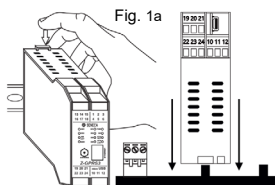

Fig. 1a
- 2) Insert the rear IDC10 connector of the module into a free slot of the OMEGA rail accessory as shown in Fig. 1a. (insertion is univocal as connectors are polarised).
- 3) To secure the module to the OMEGA guide, tighten the two hooks on the side of the IDC10 rear connector as illustrated in Fig. 1a.